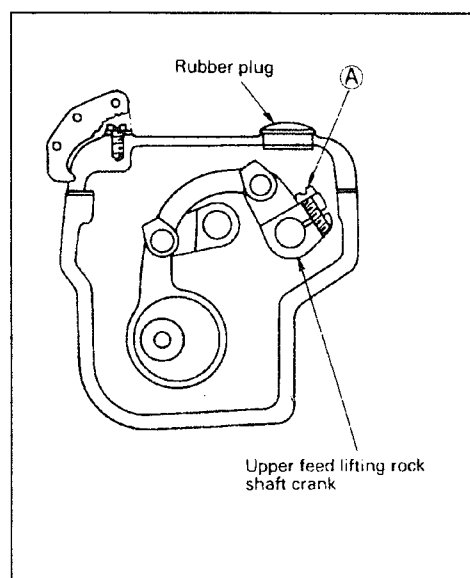

Fig.30
2) To change the balance of the alternating movements between the walking foot and presser foot (Fig.30):